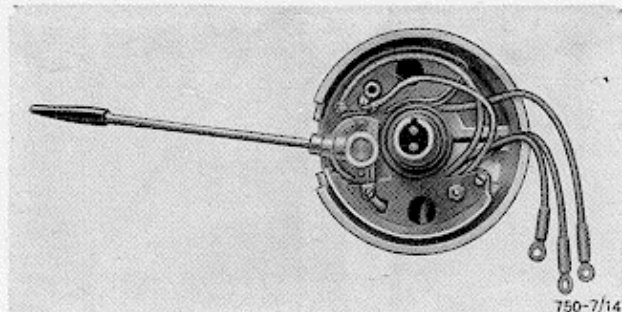

Fig. 14 - Fitting the switch for full and anti-dazzle lighting
- 13) Fit the head-lamp switch (Fig. 14) and the switch for the trafficators (Fig. 14) and connect the cables to same.